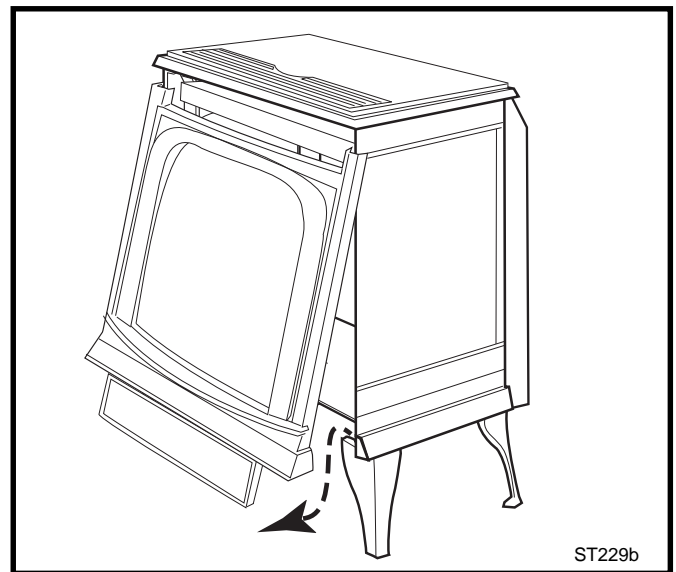

Fig. 3 Remove stove front.
- Lift the stove front up and then swing the bottom out and away to disengage it from the stove body. (Fig. 3)